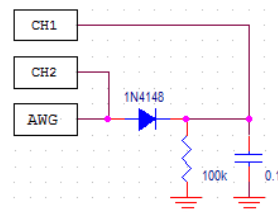

Figure 66: Half wave rectifier circuit
- 1) Build the circuit shown on figure 66.